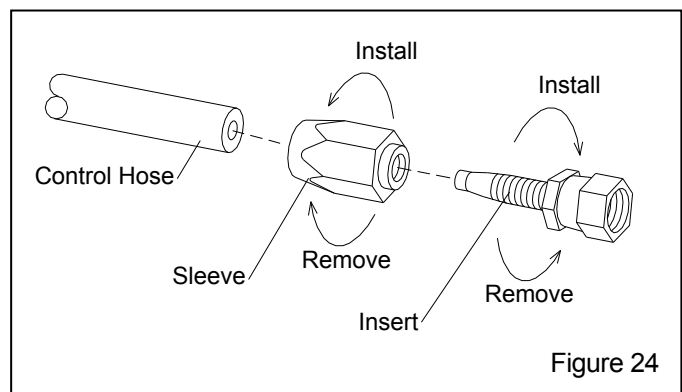

Figure 24
6.12 Remove and Install Reusable Control Hose Ends, Refer to Figure 24